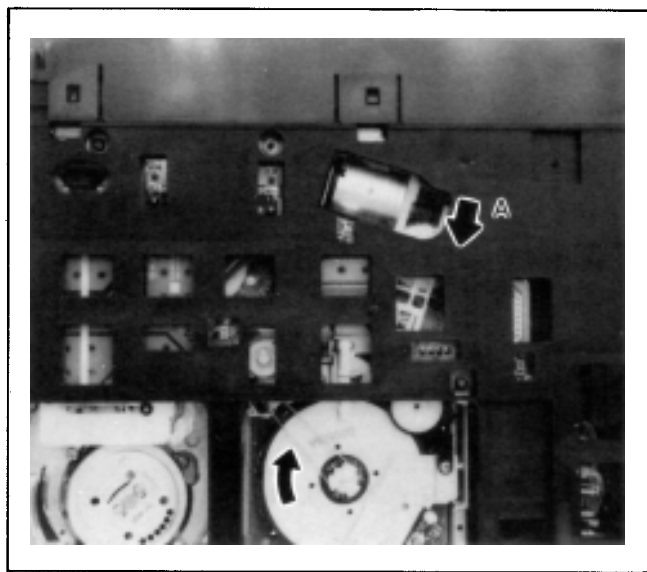

Fig. S7
- 2) Turn the WORM GEAR to "A" arrow mark direction manually as shown in Fig.S7, moving the LOADING POST to the unloaded position.